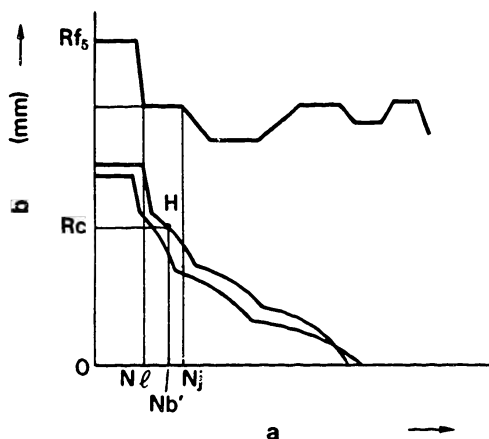

Fig. 181
2. Ensure the control rack does not move beyond Rf_5 mm when the control lever is shifted toward the maximum-speed position. (Fig. 181)